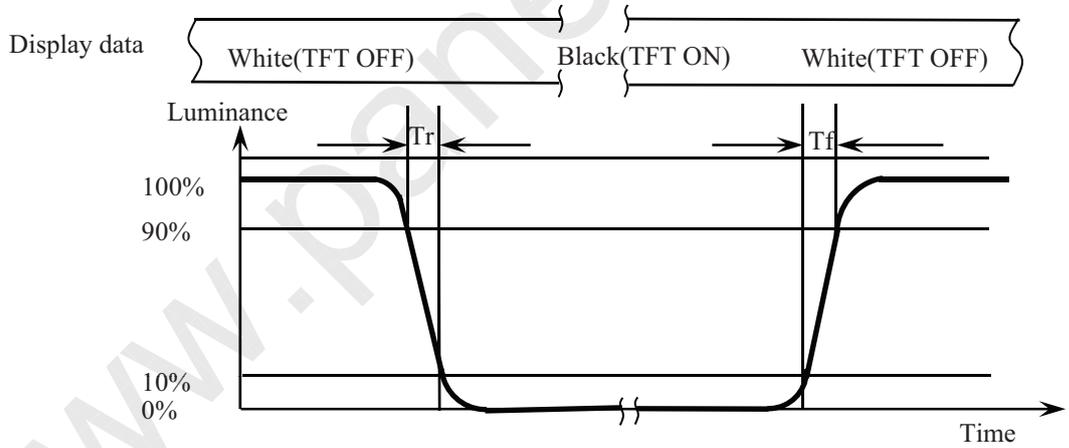

Figure 10. Response Time Testing
6. The electro-optical response time measurements shall be made as Figure 10 by switching the "data" input signal ON and OFF. The times needed for the luminance to change from 10% to 90% is T_r , and 90% to 10% is T_r .
The electro-optical response time measurements shall be made as shown in Figure 10 by switching the “data” input signal ON and OFF. Tr: The luminance to change from 90% to 10% ,Tf: The luminance to change from 10% to 90% .